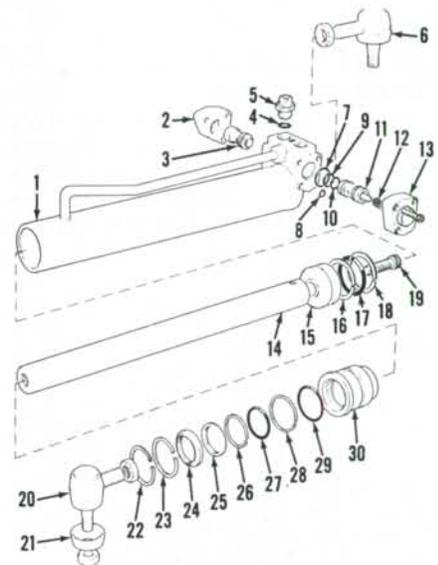

Fig. 60—Exploded view of typical side mounted steering cylinder used on some two-wheel drive tractors.
**67. OVERHAUL.** Clear cylinder of oil as necessary by moving piston rod through its full stroke. Remove two snap rings (22 and 23—Fig. 60), then pull rod (14), piston (15) and sleeve (30) from cylinder (1). Remove bolt (19) and piston (15). Remove and discard all "O" rings, backup rings, seal rings and scraper seal.